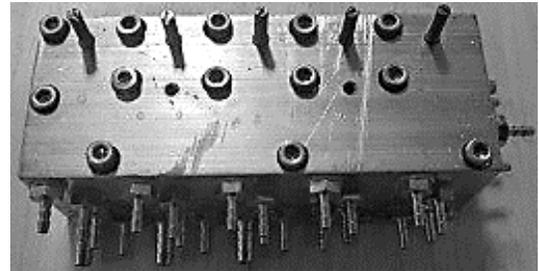

Fig. 1
Step 5 - Using a 7/64" Allen wrench, remove all 13 screws from the control block; set screws aside. (Fig. 1)